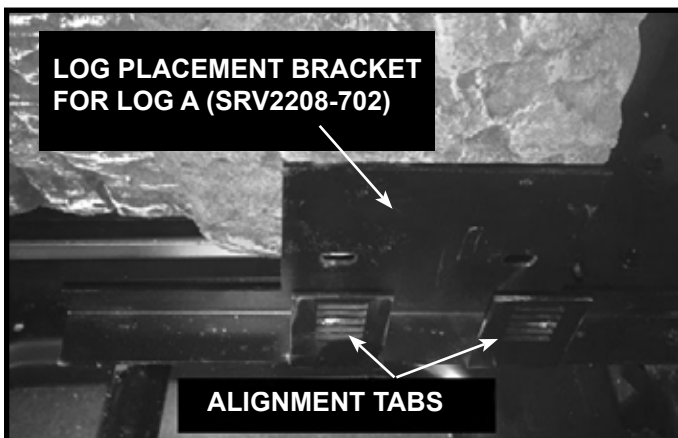
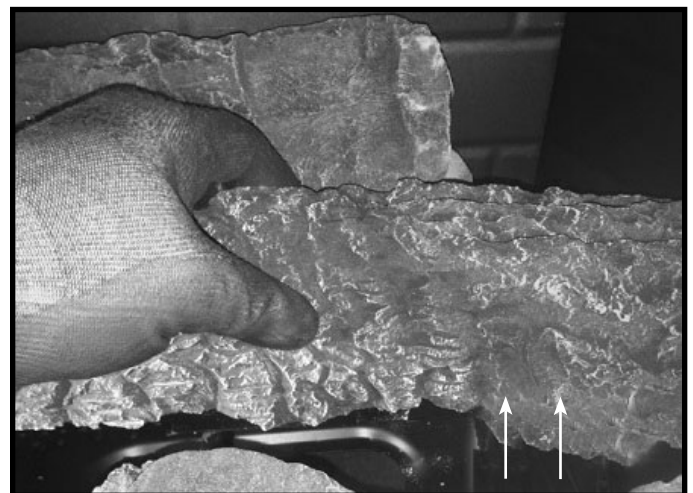

Figure 2.
Figure 3.
2. Log A placement (SRV2208-702): Install Log A as shown in Figure 2 and Figure 3. Locate log placement bracket and placement tabs shown in Figure 2. Align holes in bottom of log with alignment tabs. Place log down on log placement bracket and push back toward the rear of the firebox. See Figure 3.